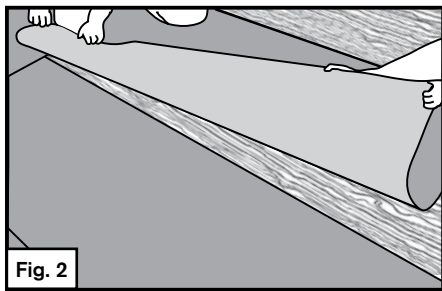

Fig. 2
If the split release liner remains on the opposite half of the sheet, flip the opposite half back and remove the remaining release liner. Use hand or foot pressure to bond that portion of the sheet to the deck. See Fig. 2
- Install the roof flange of the edge metal over the base sheet at the lowest point on the roof. Nail the edge metal 4 inches on center in a staggered pattern. See Fig. 2
If additional pieces are needed to complete the starter course, the end lap to be overlapped must be cut at 45° angles on the top and bottom corners. See Fig. 2
The top corner on the piece that is overlapping the previous piece must also be cut on the top corner at a 45° angle. See Fig. 2